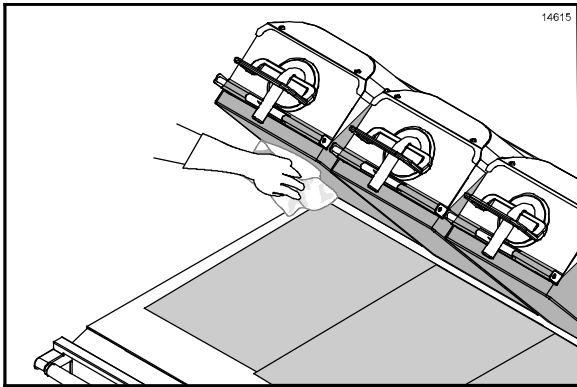

Figure 41
8. Wipe the exposed surface of the upper and lower release sheets with a clean, sanitizer-soaked grill cloth. (See Figure 41.)